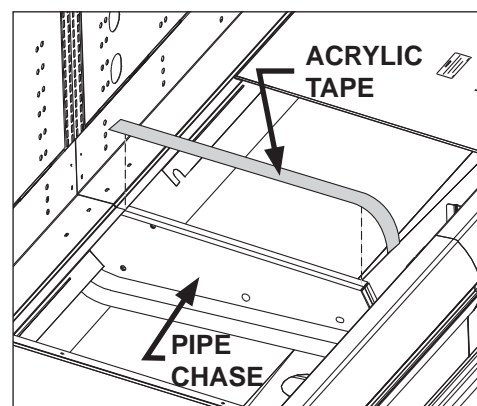

Fig. 3 Sealing the pipe chase
3. Seal the case-to-case joints with caulk (supplied), then apply acrylic tape (supplied) over the pipe-chase seam (Fig. 3). The tape acts as a watershed preventing water from settling in the case joint.